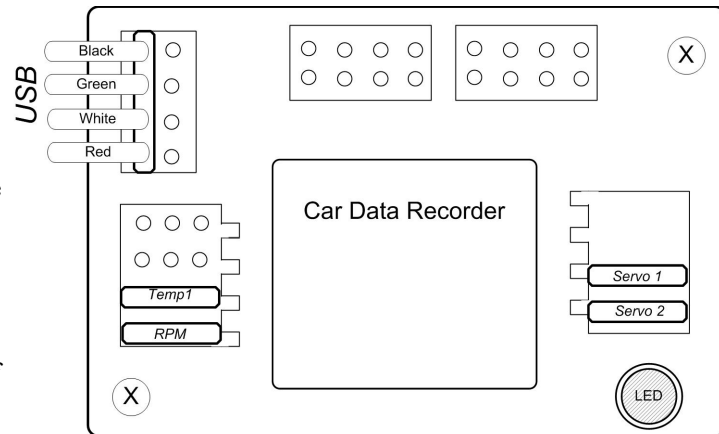

Figure 1
The Recorder includes two custom, heavy duty ‘Y’ cables with Universal connectors which install in line between your throttle and steering servos and your radio receiver. Connection of the ‘Y’ cables is simple: connect the center (male) keyed connector of the ‘Y’ to one of the 2 keyed slots servo slots in the recorder (see Figure 1), connect the remaining male connector one of the channels on your receiver, and connect the female ‘Y’ connector to the servo which you previously connected to that channel of the receiver. Note: It doesn’t matter which of the 2 keyed recorder slots you plug your ‘Y’ cables into – the Recorder Application will automatically detect which servos are connected where during application setup.
One temperature sensor is included with the Recorder – an additional sensor can be ordered separately. The temperature sensors are typically installed by placing the black wire loop around the cylinder head, and cinching it in place by pulling the two rubber stays snugly against the engine. Normally the highest temperatures are experienced near the base of the engine, but experience will dictate where your particular engine best reads heat. Other mounting arrangements are possible, such as obtaining a metal washer with a tab, carefully bending the tab around the sensor portion of the wire loop, and installing the washer under your glow plug, or installing the sensor under a dedicated tapped screw in the cylinder head. Note that since various mounting locations and brands of temperature devices on the market will read differently, the most important aspect of temperature measurement is learning how your engine reads under various conditions, and adjusting based on relative temperature readings. Plug the Futaba style connector from the sensor into the recorder as shown in Figure 1.
Once these steps are complete, plug the Futaba style connector on the sensor into the recorder as shown in figure 1. Note that a standard Futaba style servo extension cable can be used to lengthen the wire if needed.
NOTE: for the secondary RPM sensor to work, there has to be voltage from 4.5 to 6.5 V supplied to one or both of the servo inputs (as shown in Figure 1). This is normally done with the Y Cables, a separate battery, or your BEC.
**Warning:** *Make sure you connect the custom USB plug with the correct polarity, and into the correct connector on the Recorder, as shown in Figure 1 r. Not doing this could cause damage!*